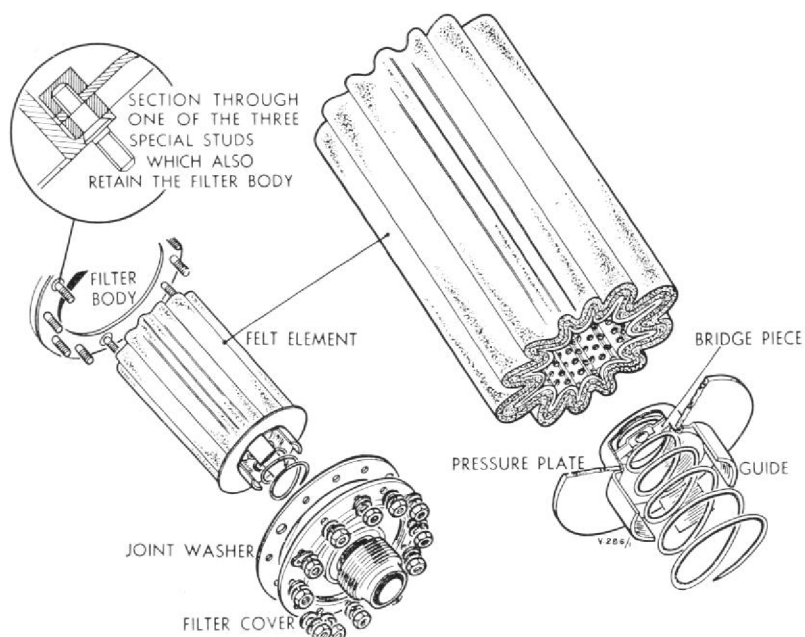

Fig. 2. Tecalemit rear bearing cooling-air filter.
2. Unscrew the twelve 2 B.A. nuts which secure the air filter cover and remove the twelve spring washers, eleven plain washers, and one lockwire tab washer; remove the filter cover and withdraw the filter insert assembly, Fig. 2.